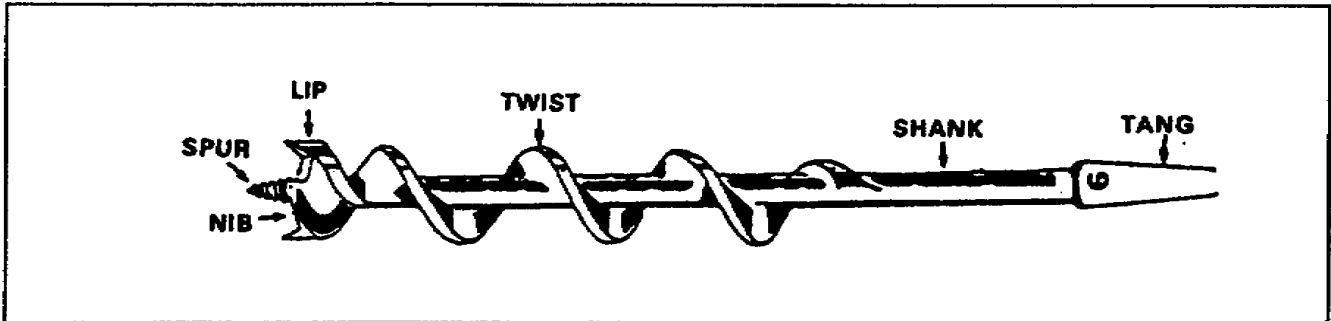

Figure 2-1. Auger bit
(1) Auger Bit. Auger bits come in sizes from 1/4 inch to 1 inch. The number on the tang shows the size of the bit in 1/16-inch increments. For example, in Figure 2-1, page 2-2, the number 6 means that it is 6/16 (or 3/8) inch.